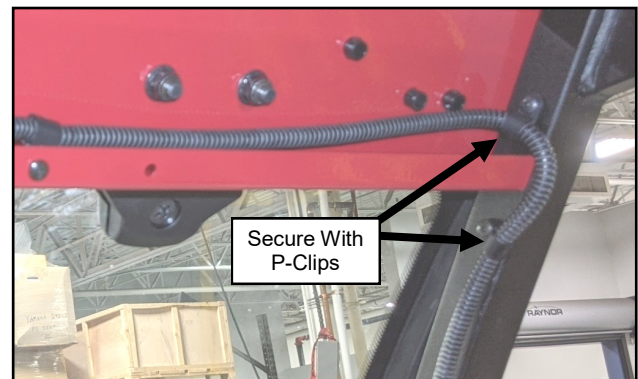

Fig. 15.2 (Secure Harness With P-Clips)
- 15.2** Run the harness along the windshield support and down the side frame. Secure it with (2) more P-clips and hardware. See Figure 15.2. Connect the harness to the heater switch.